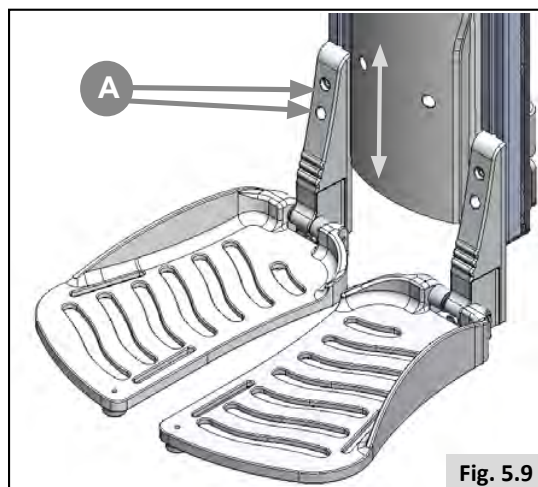

Fig. 5.9
- Loosen the 2 bolts (A) with a 5.0 mm Allen key, (Fig.5.9).